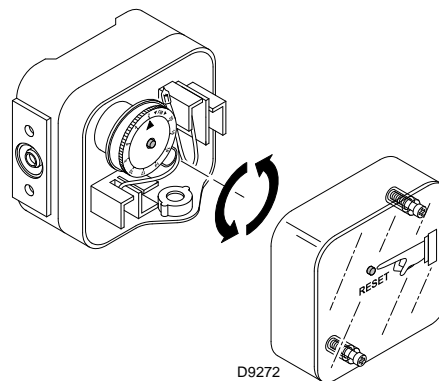

Fig. 27
- Adjust the maximum gas pressure switch (Fig. 27) to the end of the scale.
Adjust the maximum gas pressure switch after having performed all other burner adjustments with the maximum gas pressure switch set to the end of the scale (Fig. 27).